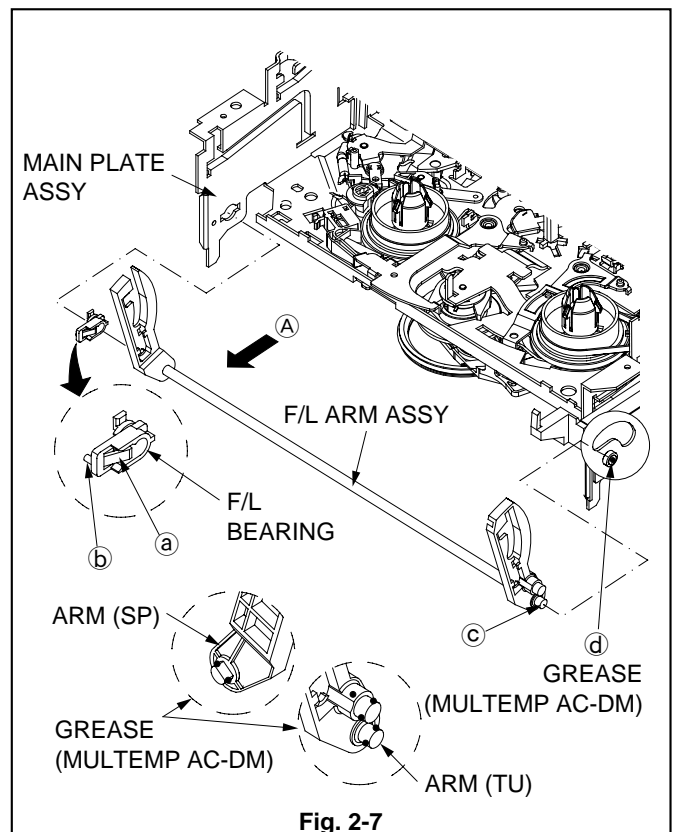

Fig. 2-7
1. Release the catch (a) of the F/L BEARING shown in the Fig. 2-7 and pull out the F/L ARM ASSY in the direction shown by the arrow (A).
2. Release the catch (b) of the F/L BEARING shown in the Fig. 2-7 and rotate the F/L BEARING by 90 degrees to remove it.
1. Apply GREASE (MULTEMP AC-DM)[859D055O90] to the Groove of the MAIN PLATE ASSY shown in the Fig. 2-7.
2. Apply GREASE (MULTEMP AC-DM)[859D055O90] to the Boss of the ARM (SP) shown in the Fig. 2-7.
3. Apply GREASE (MULTEMP AC-DM)[859D055O90] to the Bosses of the ARM (TU) shown in the Fig. 2-7.
4. Install the F/L BEARING shown in the Fig. 2-7.
5. Insert the Boss (c) of the F/L ARM ASSY shown in the Fig. 2-7 into the Groove (d) of the MAIN PLATE ASSY to install the F/L ARM ASSY.